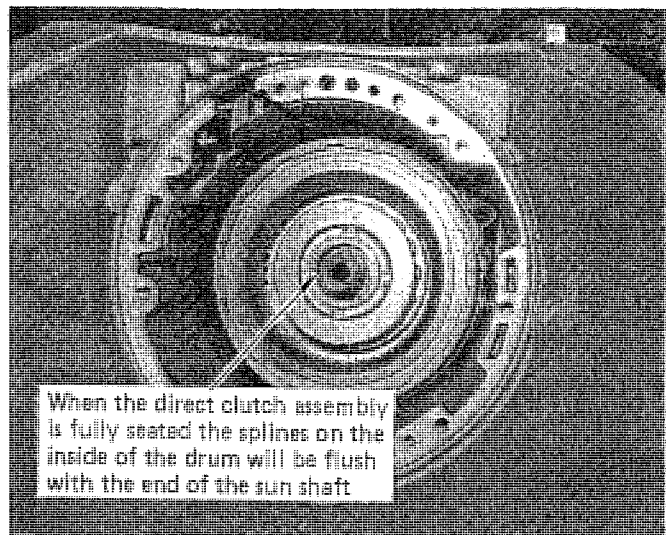

FIGURE 48
STEP 15. Install the direct clutch assembly into the case. Hold the drum straight as you install it and rotate slightly to engage the clutches. It may be necessary to hold the intermediate kickdown band in position with a screwdriver to keep it from shifting out of alignment. When the direct clutch housing is fully seated and engaged, the splines of the drum will be flush with the front edge of the sun gear shaft. (See Fig. 48)